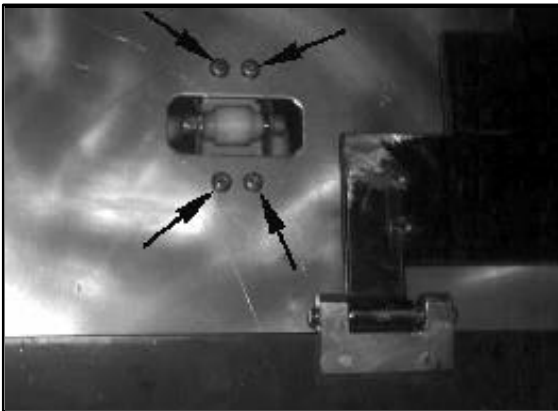

FIGURE 4-4: ROLLER ASSEMBLY
- d. Refer to **Figure 4-4**. Remove four bolts fastening roller assembly to enclosure.